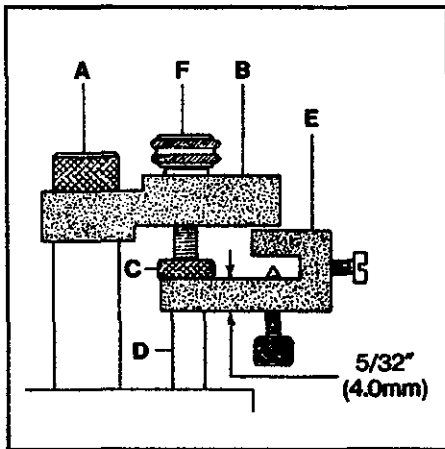

FIG. 8
Turn the handwheel until the needle bar is at its lowest point. Loosen presser bar regulating screw (A, Fig. 8) and insert needle bar setting block (B) under the head of the screw (A) with stop screw (C) above needle bar (D). Tighten screw (A).
The long portion of the looper clamp and height gauge (E, Fig. 8) laid on its side is the $5/32"$ (4.0mm) gauge used to set the distance between stop screw (C) and the top of the needle bar (D) at its lowest position. Tighten nut (F) to clamp stop screw (C) into place.